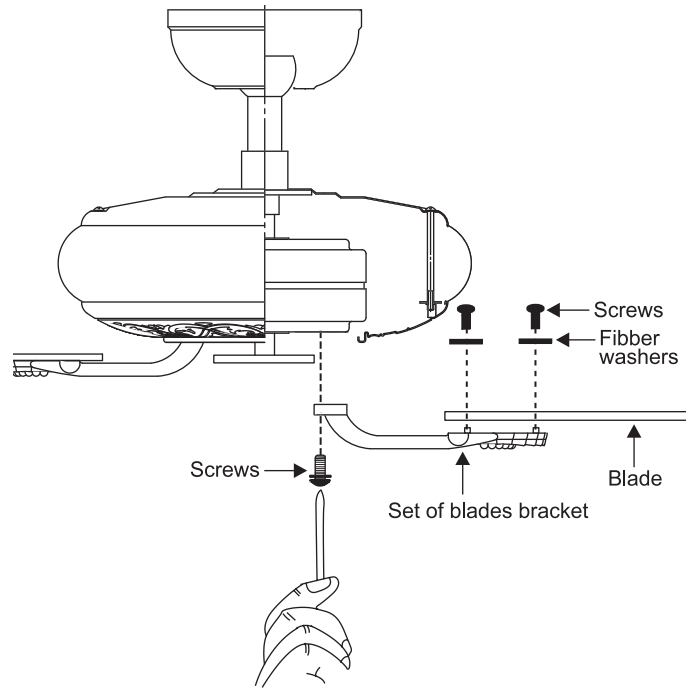

Figure 17
Step 1 Attach the blade to the blade bracket using the screws and fibber washers as shown in Figure 17. Start screw into bracket. Repeat for the two remaining screws.
Step 3 Fasten blade assembly to motor using the screws supplied. (Fig. 17)